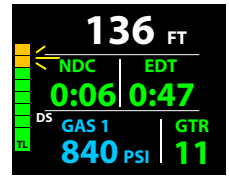

Fig. A3 - TL ALARM
NORM TISSUE LOADING BAR GRAPH (TL) ALARM (Fig. A3)